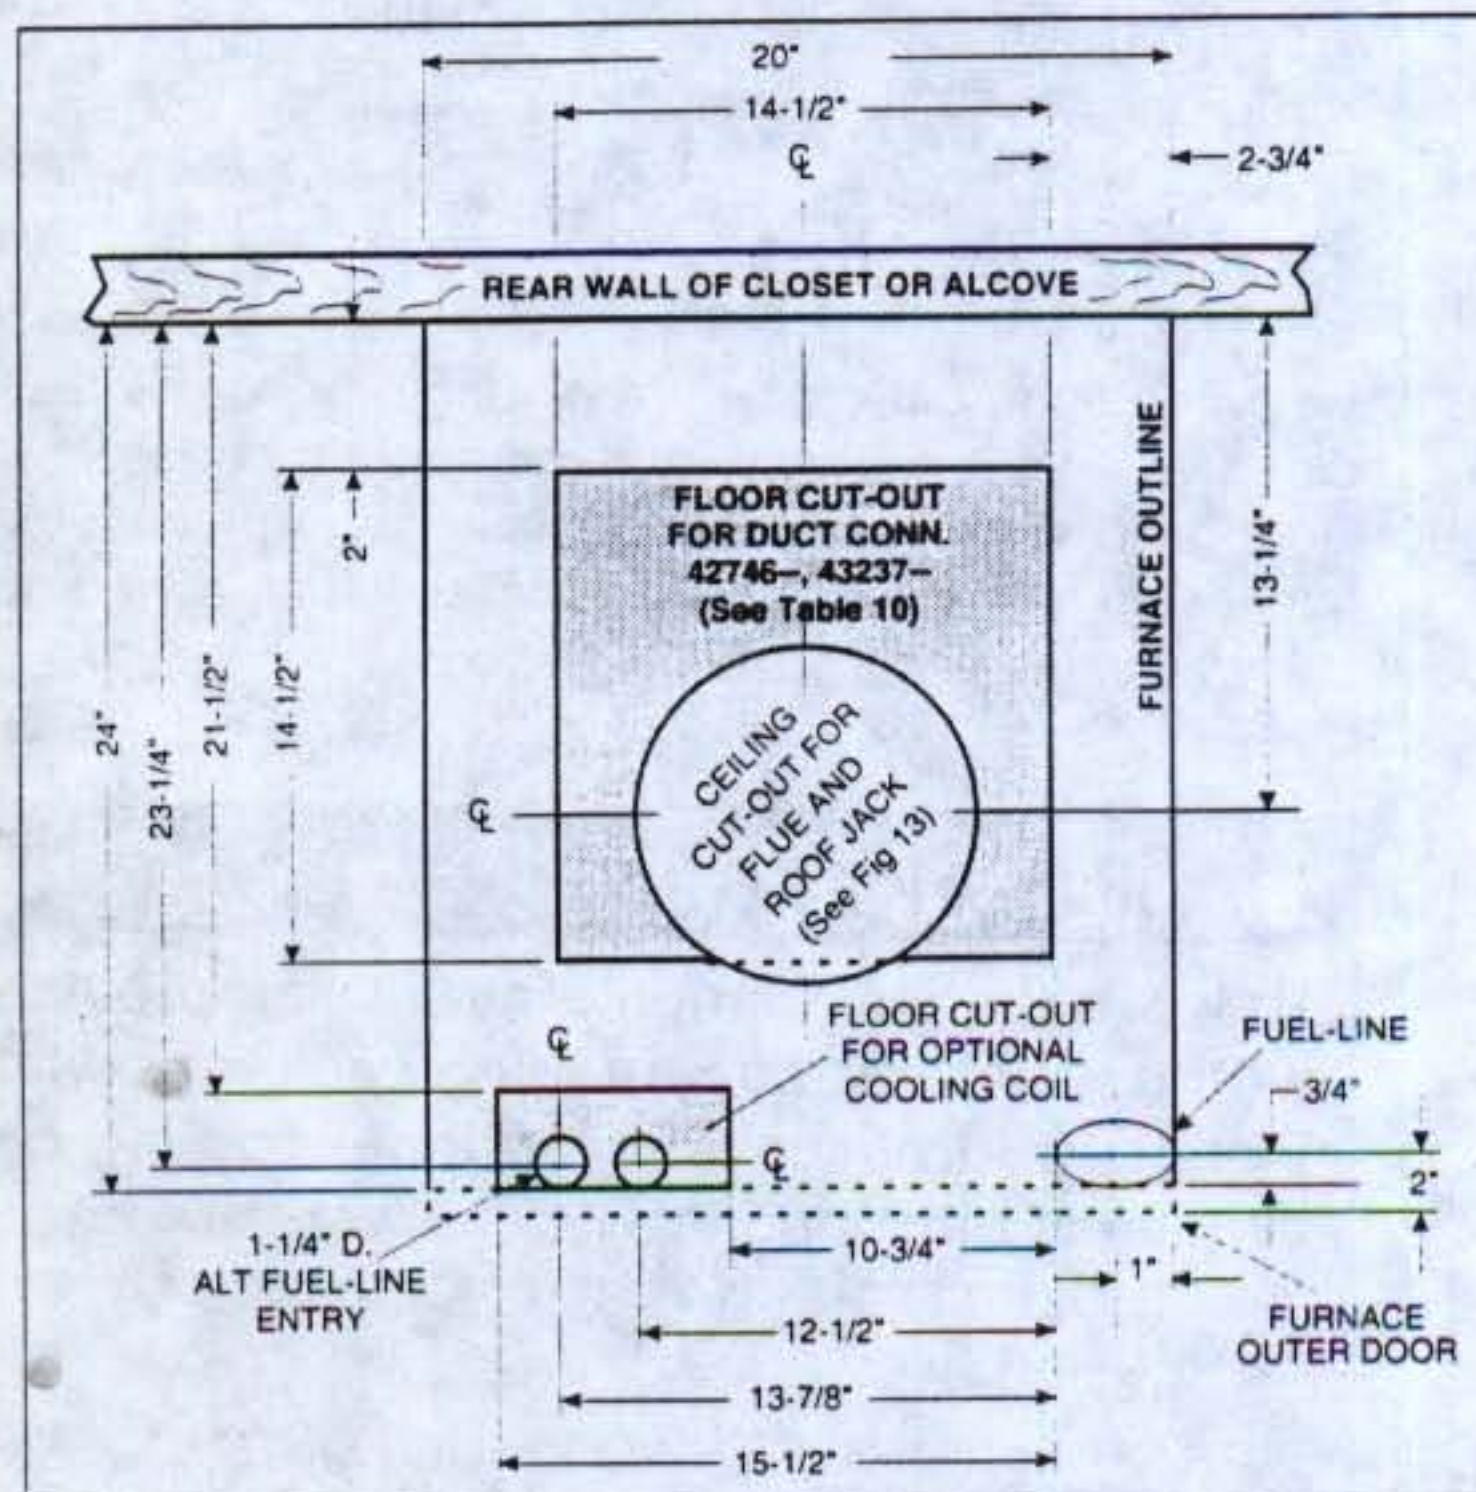

Figure 14. Cut-Out Locations
- Locate center of Roof Jack opening, measured 13 5/8" from the rear wall of closet or alcove along the center line of furnace and floor opening. (See Figure 14)